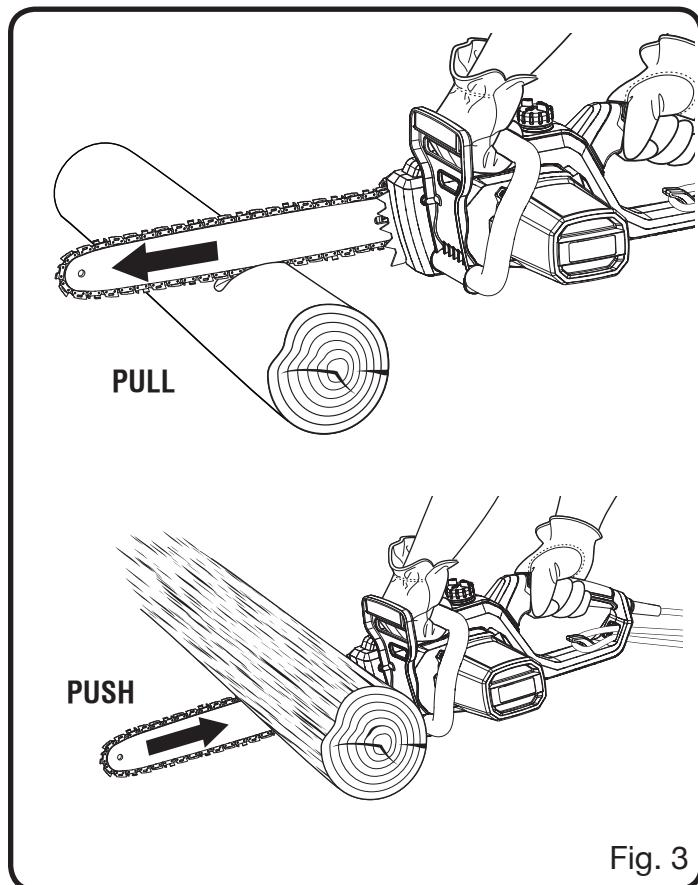

Fig. 3
- Push and Pull - This reaction force is always opposite to the direction the chain is moving where wood contact is made. Thus, the operator must be ready to control the PULL when cutting on the bottom edge of the bar, and PUSH when cutting along the top edge. See *Figure 3*.